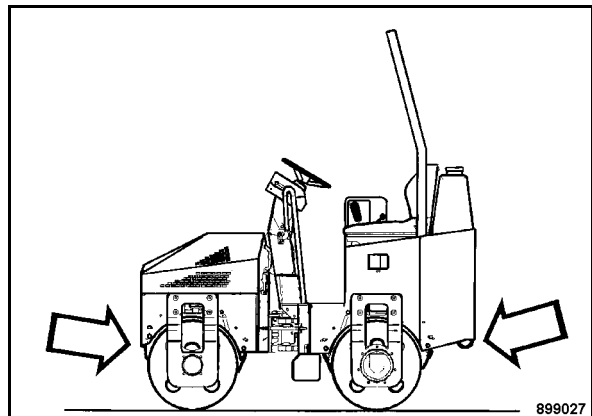

Fig. 53
- Tow the machine by the front or rear towing hitches (Fig. 53).